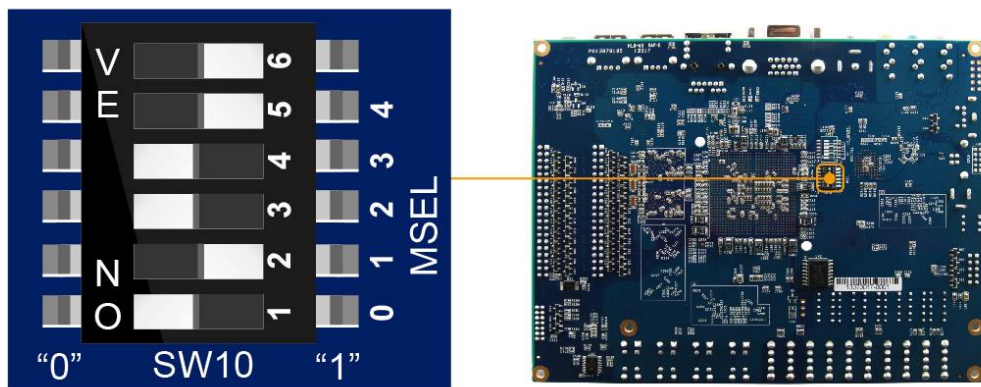

Figure 3-1 DIP switch (SW10) setting of Active Serial (AS) mode at the back of DE1-SoC board
When the DE1-SoC board is powered on, the FPGA can be configured from EPCS or HPS. The MSEL[4:0] pins are used to select the configuration scheme. It is implemented as a 6-pin DIP switch **SW10** on the DE1-SoC board, as shown in **Figure 3-1**.
**Figure 3-1** shows MSEL[4:0] setting of AS mode, which is also the default setting on DE1-SoC. When the board is powered on, the FPGA is configured from EPCS, which is pre-programmed with the default code. If developers wish to reconfigure FPGA from an application software running on Linux, the MSEL[4:0] needs to be set to "01010" before the programming process begins. If developers using the "Linux Console with frame buffer" or "Linux LXDE Desktop" SD Card image, the MSEL[4:0] needs to be set to "00000" before the board is powered on.